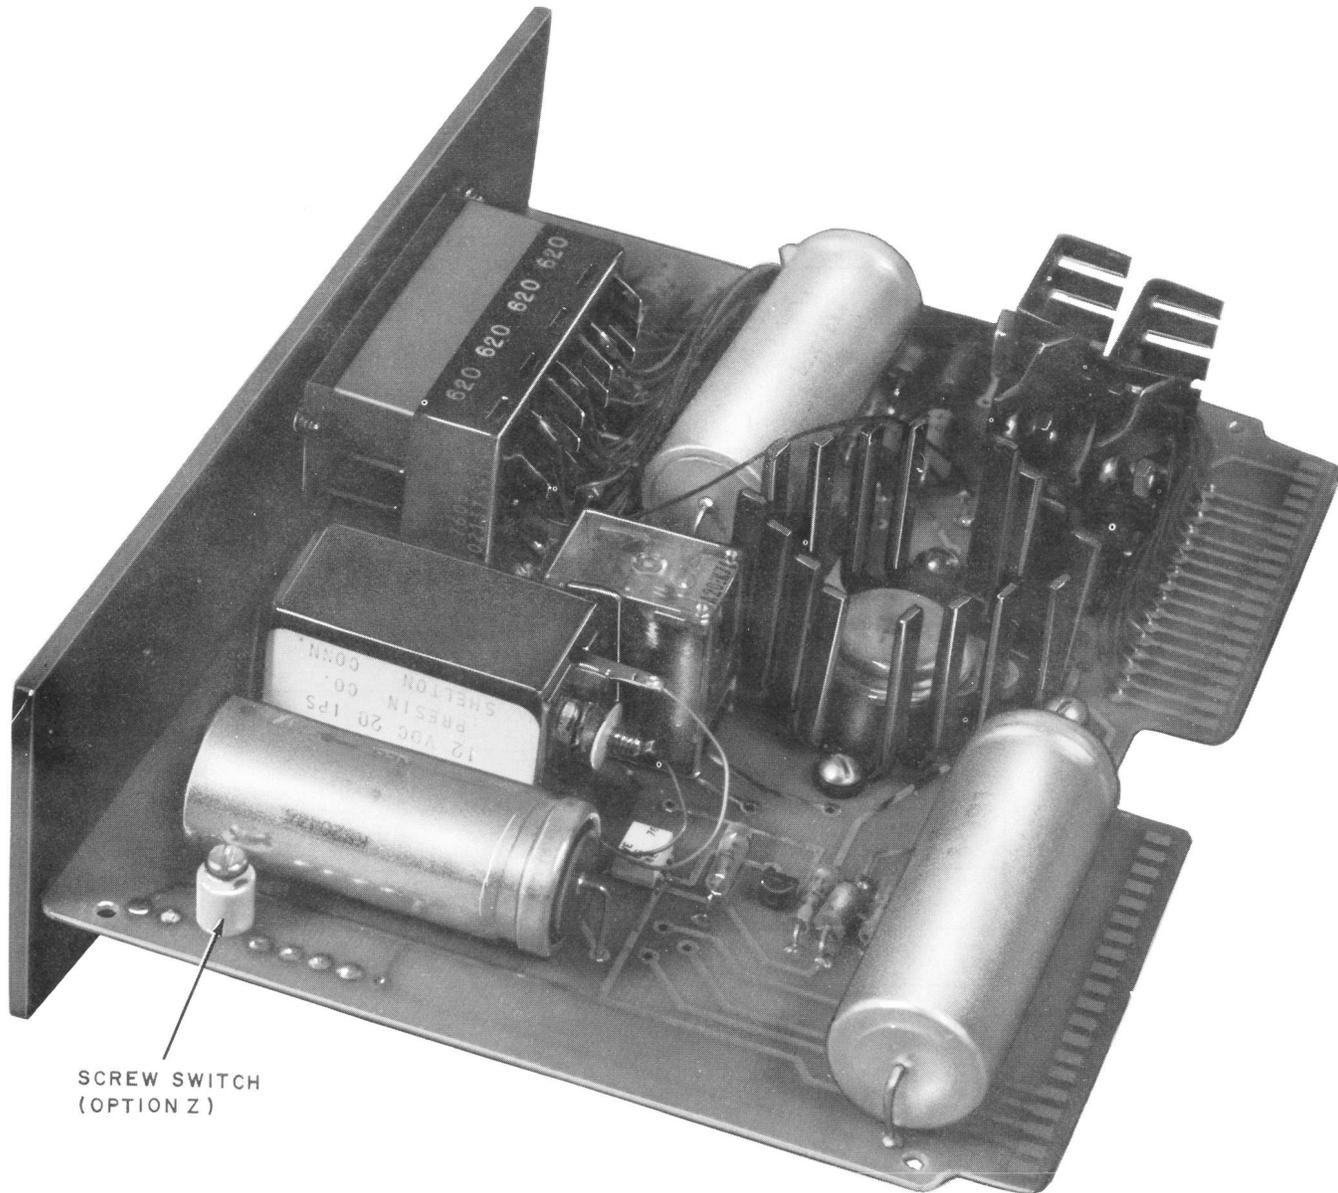

Fig. 9—HJ13 Control Panel and Power Supply Circuit Pack (Option Z)
(a) **Control Panel and Power Supply Circuit Pack (HJ13)**—The HJ13 CP is designed to be used as the control panel and power supply for the RAU. The CP is held in the carrier by a screw on the left side of the faceplate. Its function is to provide a positive-action feeling when the switches mounted in the faceplate are operated. A note is provided to remind maintenance personnel that *the side screw holding the HJ13 CP in place must be loosened prior to disengaging the CP from the carrier*. The switches and lamps that are a part of the HJ13 CP as shown in Fig. 9 provide the following functions.
attendant console. The ON/OFF switch is a night transfer switch and is not turning the power on or off. The ON/OFF rocker switch has a bypass in the form of a screw switch located on the HJ13 CP (Fig. 9). When the screw switch is closed, the HJ13 CP is turned on all the time. The screw switch overrides the rocker switch. When the screw switch is open, the rocker switch controls the RAU.
4. WHEN A DEDICATED CO LINE CIRCUIT IS USED, TIGHTEN DOWN THE SCREW SWITCH (OPTION Z) ON CIRCUIT PACK HJ13. (SEE FIG. 9.)
4. WHEN THE RAU IS USED IN A CENTREX APPLICATION, TIGHTEN DOWN THE SCREW SWITCH (OPTION 2) ON CIRCUIT PACK HJ13. (SEE FIG. 9).